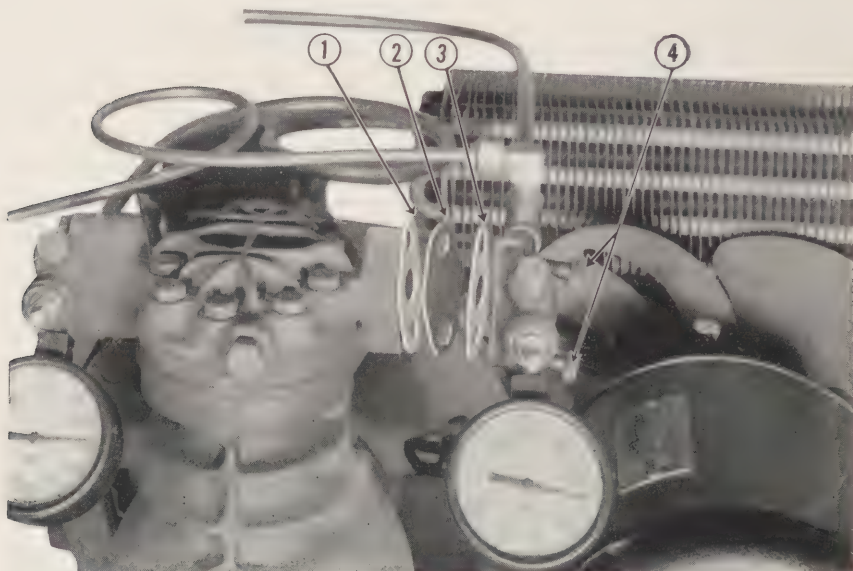

Figure 39. Suction service valve restrictor.
- (1) Balance the pressure for compressor repairs. See par 42.
- (2) Disconnect the suction service valve from the compressor by removing the 2 screws, SR01142 (fig 39, item 4). Restrictor, 9R27130 (item 2), will drop when suction service valve is removed.
- (3) Remove the strainer from the suction port of the compressor head.
- (4) Clean strainer with carbon tetrachloride or replace.
- (2) Assemble and attach with 2 screws, SR01142, the suction service valve, restrictor, 9R27130, and 2 new service valve gaskets, 9R27142 (fig 39).
**CAUTION: RESTRICTOR MUST BE INSTALLED BETWEEN THE 2 GASKETS (fig 39).**
- (1) Pump down the system. (See par 41.)
- (2) Disconnect the extension cord plug from the source of supply.
- (3) Disconnect the suction service valve from the compressor head by removing the 2 screws, SR01142 (fig 39, item 4). Restrictor, 9R27130 (item 2), will drop when valve is removed.
- (1) Sweat new valve on suction line and permit to cool.
- (2) Swing suction line and valve into proper position.
- (3) Connect the valve to the compressor head with 2 screws, SR01142, using 2 new gaskets, 9R27142. Make certain that the restrictor, 9R27130 (fig 39, item 2), is assembled between the 2 gaskets.
- (4) Reconnect the  $\frac{1}{4}$  inch flare nut to the elbow fitting on the